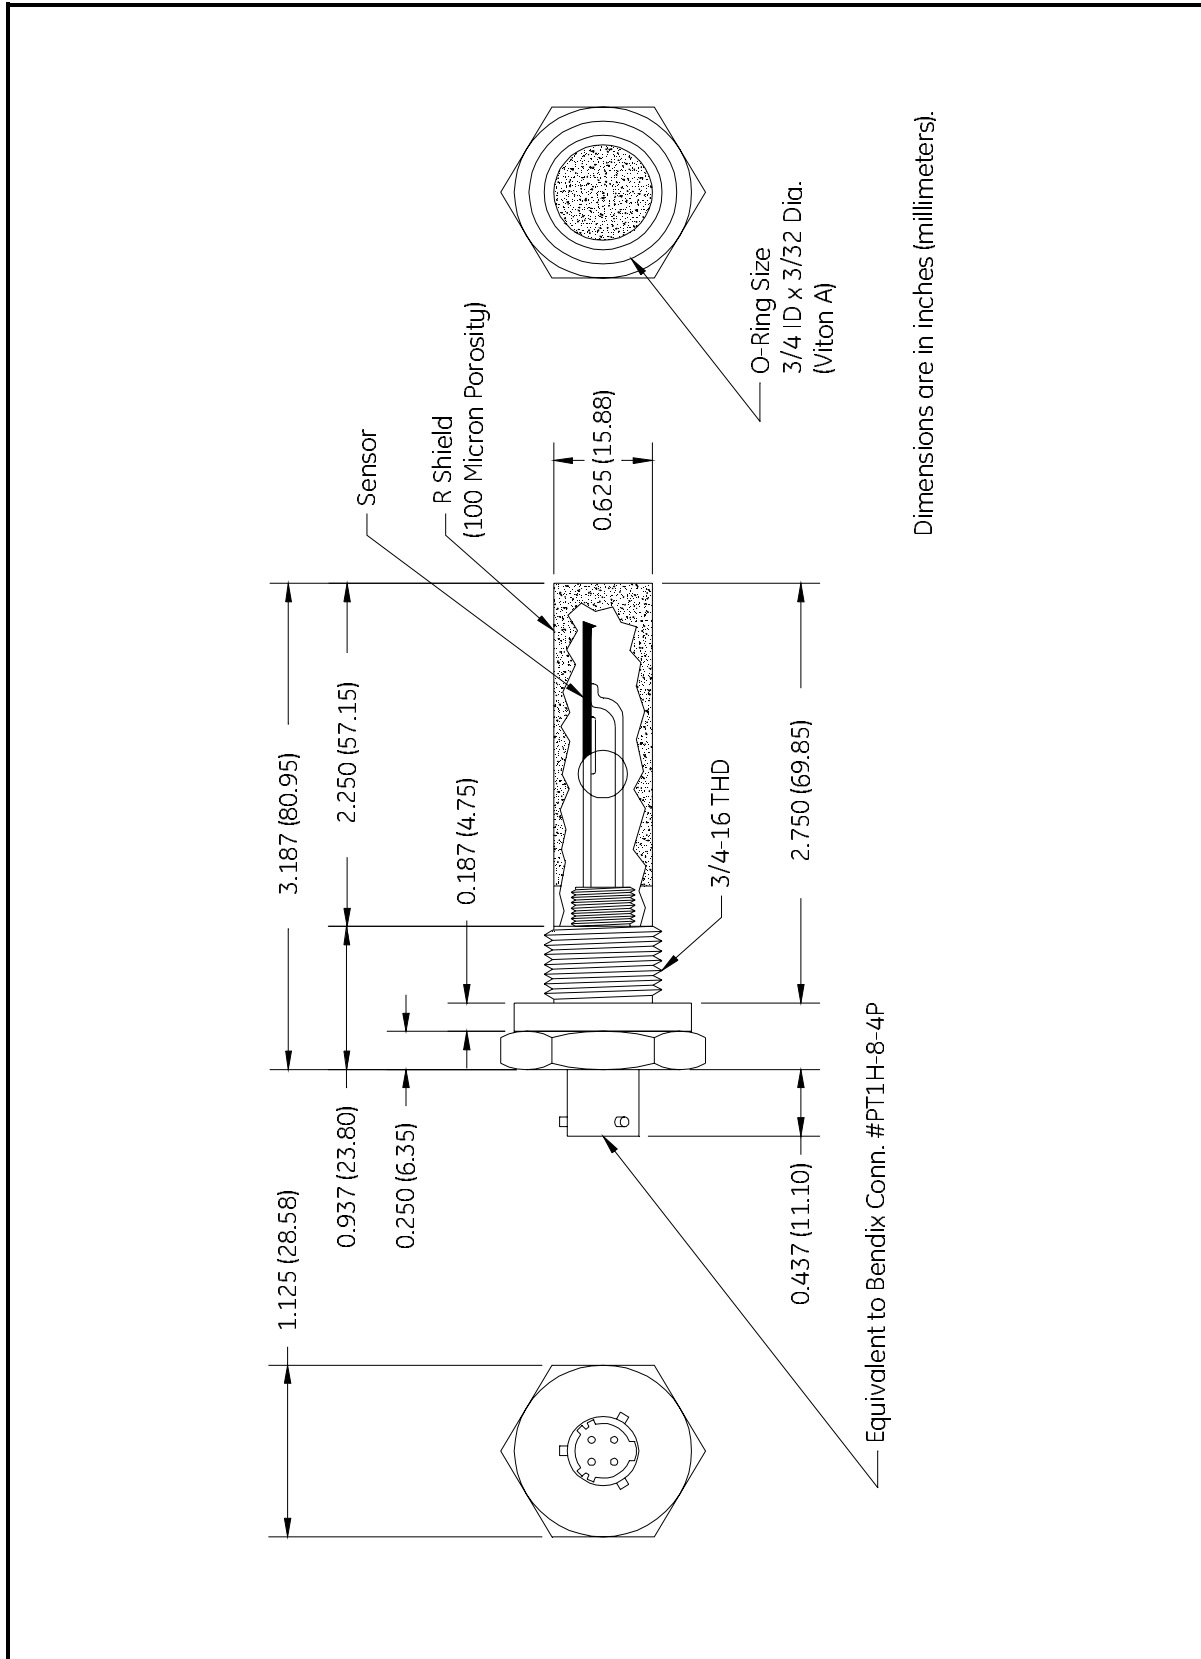

Figure 5: Panametrics M2 Moisture Probe
2. Carefully remove the protective shield covering the sensor without touching the exposed sensor (see Figure 5 on page 10).